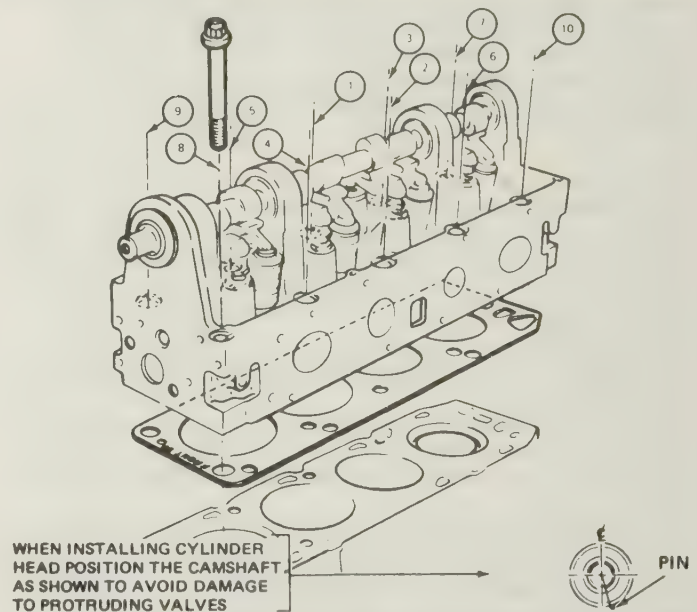

Fig. 1.9. Cylinder head bolt tightening sequence (Sec. 8)
- 13 Loosen each cylinder head bolt slightly in the reverse order to that shown in Fig. 1.9. Then remove all the bolts with the exception